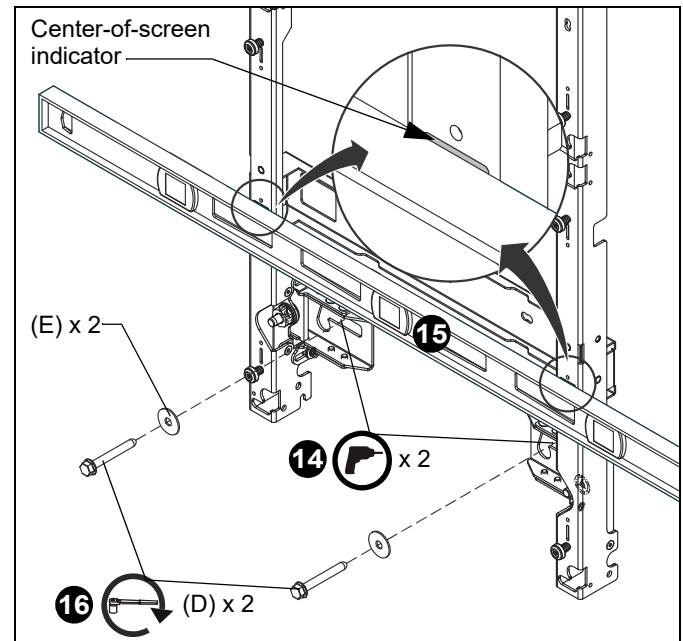

Figure 10
- Drill pilot holes in centerline of lower slots (see Table 1 for size) and follow fastener information (appropriate for wall type) located in Table 1. (See Figure 10)
- Double check the level of the mount at the center-of-screen indicators. (See Figure 10)
- Fully tighten the 5/16 x 2-1/2" lag screws (K) through the 5/16" fender washers (L). (See Figure 10)